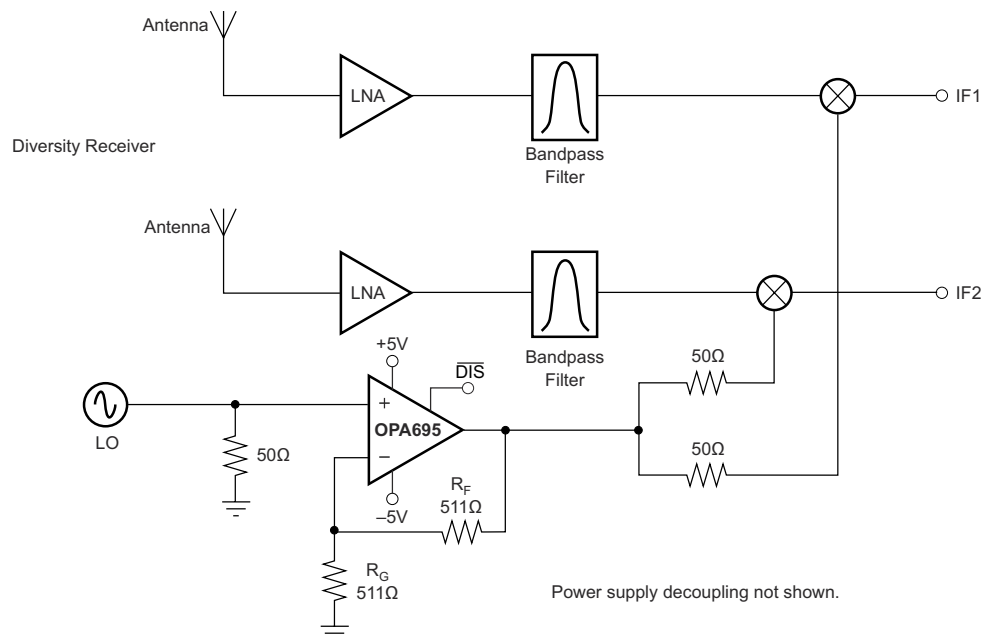

Figure 7-5. Dual Output LO Buffer
The OPA695 can also be used to buffer the local oscillator (LO) from the mixer. Operating at a voltage gain of +2 V/V, the OPA695 provides excellent load isolation for the LO, with a net gain of 0 dB to the mixer. Applications through a 1.4-GHz LO can be considered, but best operation is for an LO < 1.0 GHz at a gain of +2 V/V. Gain can also be provided by the OPA695 to drive higher power levels into the mixer. Figure 7-5 shows one option for the OPA695 as an LO buffer. The OPA695 can drive multiple output loads; therefore, two identical LO signals can be delivered to the mixers in a diversity receiver by tapping the output off through two series 50-Ω output resistors. This circuit is set up for a voltage gain of +2 V/V to the output pin for a gain of +1 V/V (0 dB) to the mixers, but can be easily adjusted to deliver higher gains.